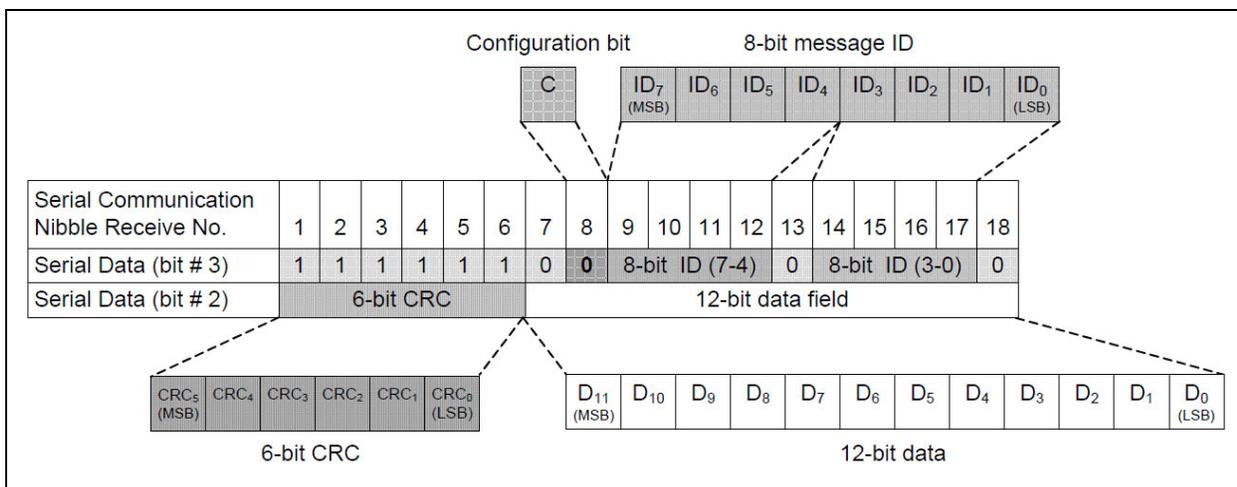

FIGURE 4-9: 12-Bit Data and 8-Bit Message ID.
- 12-bit data and 8-bit Message ID (Configuration bit = 0, Figure 4-9)